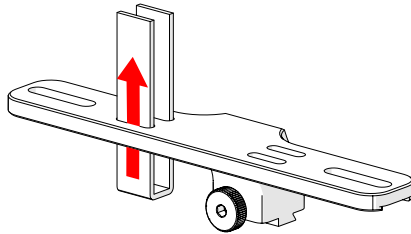

Fig. 160 - Insert velcro straps
1. Slide the velcro strap through the bracket's holes (Fig. 160).